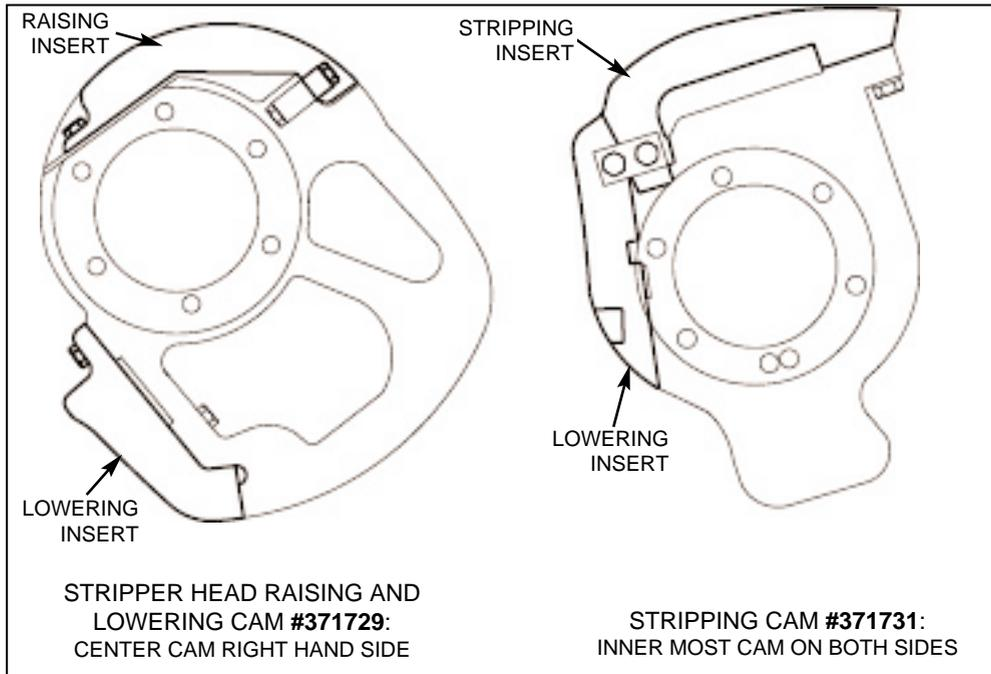

Figure 4.28 CAM INSERTS.
4.2.5 Install stripping cam insert # 371731 on each side of the machine and one stripper head raising cam insert # 371729 on the right side of the machine (see figure 4.28).